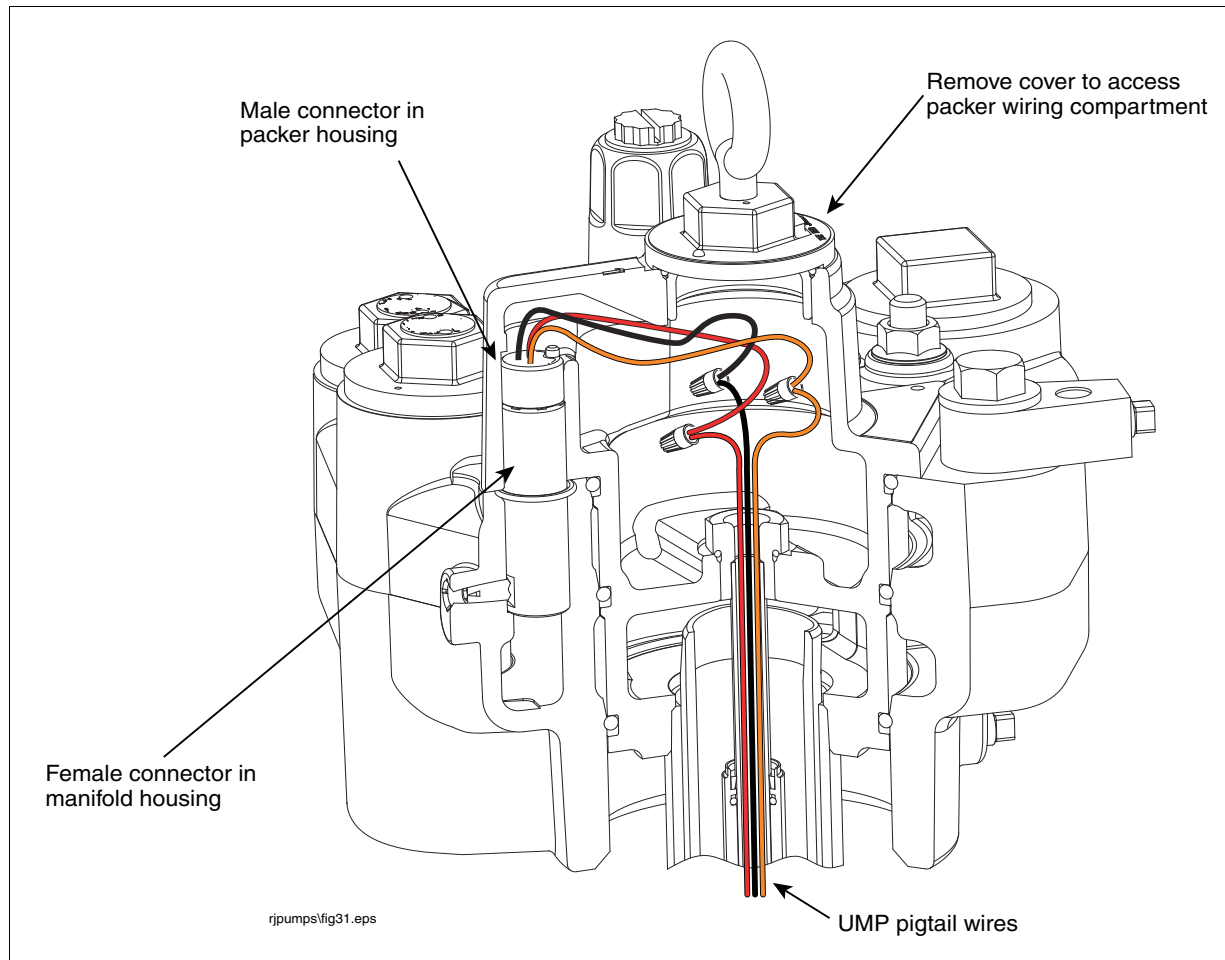

Figure 16. Connecting UMP To Packer Wiring
13. Connect like colored wires from the UMP to like colored wires from the male connector with wire nuts. When finished connecting the wires, neatly coil wires inside the packer's wiring compartment (see Figure 16).